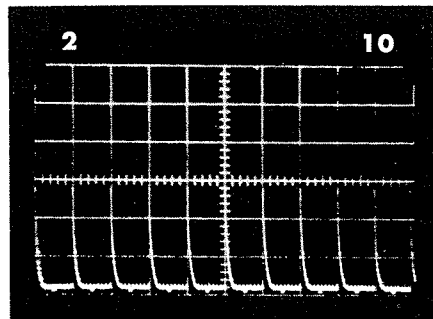

Fig. 2.
Step 2 Set 5X MAGNIFIER to OFF, TIME/CM switch to 10 μ sec/cm. Apply 10 μ sec markers to VERTICAL INPUT. Position start of sweep on first vertical graticule line and adjust C160E for one mark per centimeter between the second and tenth vertical graticule lines, (disregard the first and tenth centimeter divisions). See Fig. 2.